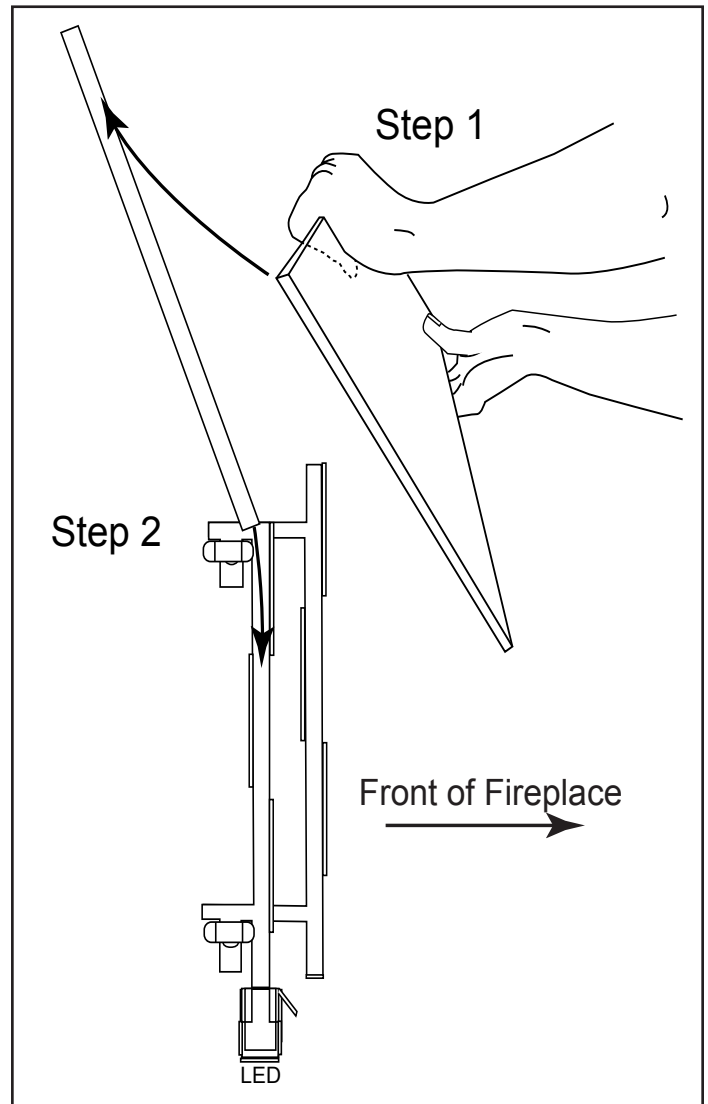

Fig. 39 Installing glass panels.
- Using gloves carefully lift one glass panel, into the fireplace opening, over top of the glass clips, and slide it down into the metal retainer clip, supporting the glass at the top and bottom as you handle it. See Fig. 39
- Install the second glass pane in the same manner as described in Fig. 39.
**“WARNING: Both glass panels must be installed when the fireplace is in operation”.** Note: All four (4) glass panels must be installed on see through fireplaces.